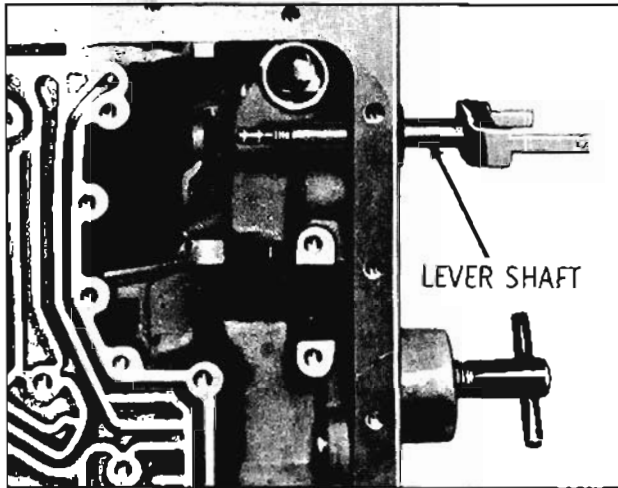

Fig. 6-411 Installing Selector Lever
2. With a twisting motion, insert outer range selector lever into case. (Fig. 6-411) Use new seal.